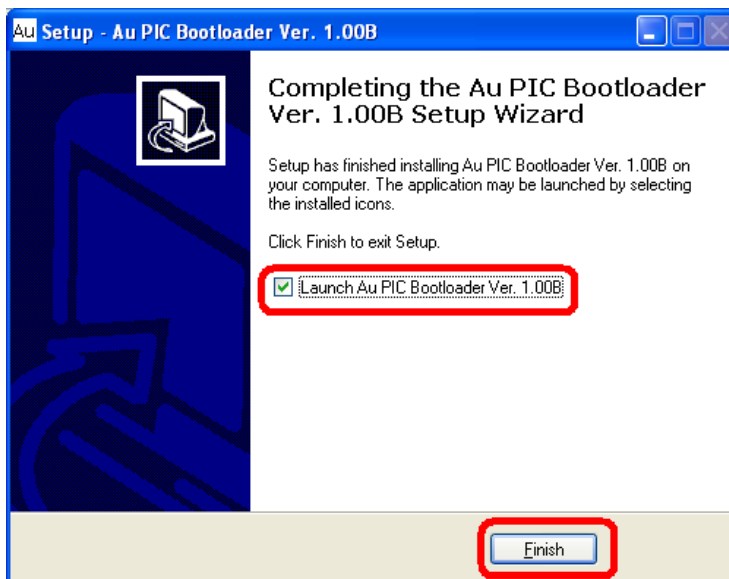

Figure C-8
8. After a few seconds, "Completing the Au PIC Bootloader Setup Wizard" window shows up, check "launch Au Bootloader", click "Finish" to exit setup (Figure C-8).